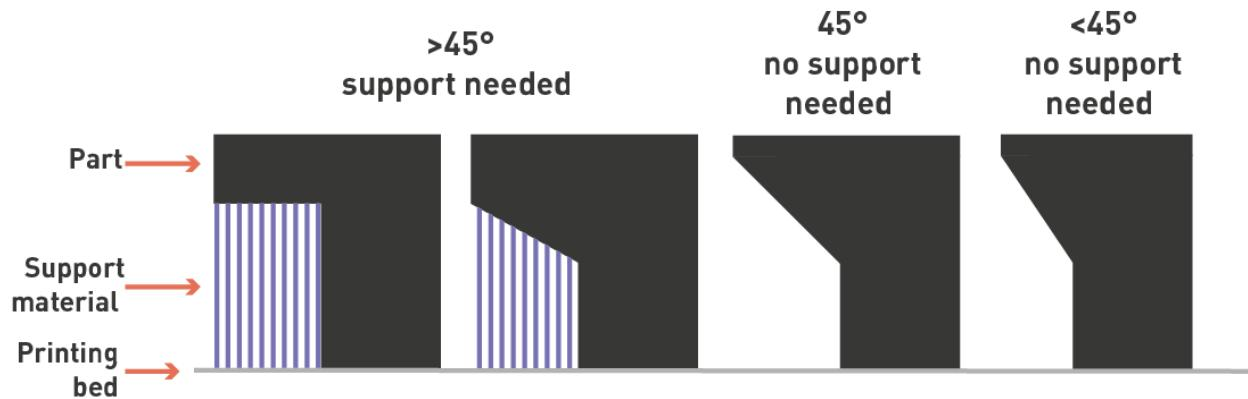

Figure 28 - Support material recommendations.
F. Support material. Depending on the geometry of your redesign part, you may have to select to have support material in some sections, as shown in Figure 28. If you have overhangs over 45° you will need support material, you can design your overhangs to use as little support material as possible. You can consider using soluble materials for the support (like PVA). This will only be possible if you have a printer that has two nozzles, and it also has its disadvantages, such as water absorption by the printed part.